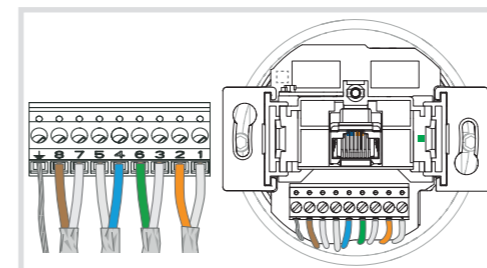

Figure 5
- Pull off 9pole terminal block (2) from the device and lay the wires according to the prescribed colour coding (Table 3).
**i** The assignments on the terminal block (2) must match those of the patch panel in the network.
- Mount terminal block onto the contact pins (3) (Figure 5).